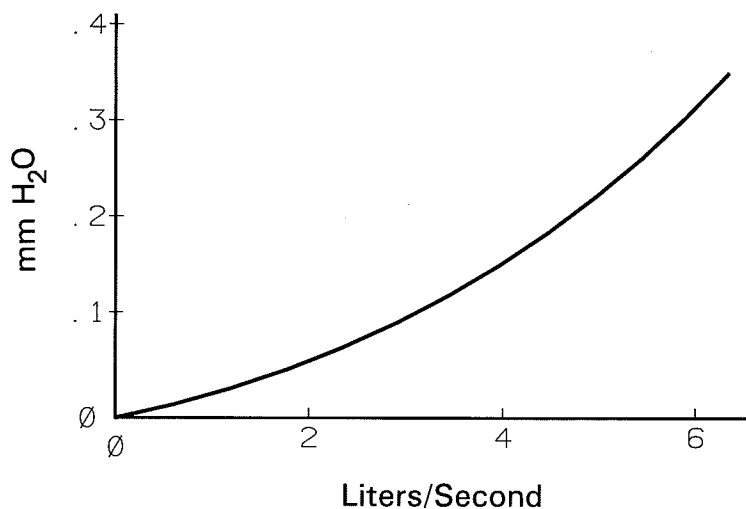

Figure 2-2. Pressure Drop vs. Air Flow
2. Establish the relationship between airflow and pressure drop. For a breadboard loaded with typical components (such as ICs, relays, and a few heat sinks), the curve shown in Figure 2-2 may be used to determine the pressure drop across the module. Determine the pressure drop as the intersection of the curve and the required airflow. For example, if the airflow required is 1.6 liter/second, the pressure drop is approximately 0.04 mm H₂O.